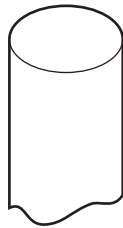

Fig. 10
- (c) (i) Fig. 10 shows one end of the dowel used to join the legs.
Add sketches to Fig. 10 to show how the end of the dowel could be prepared to